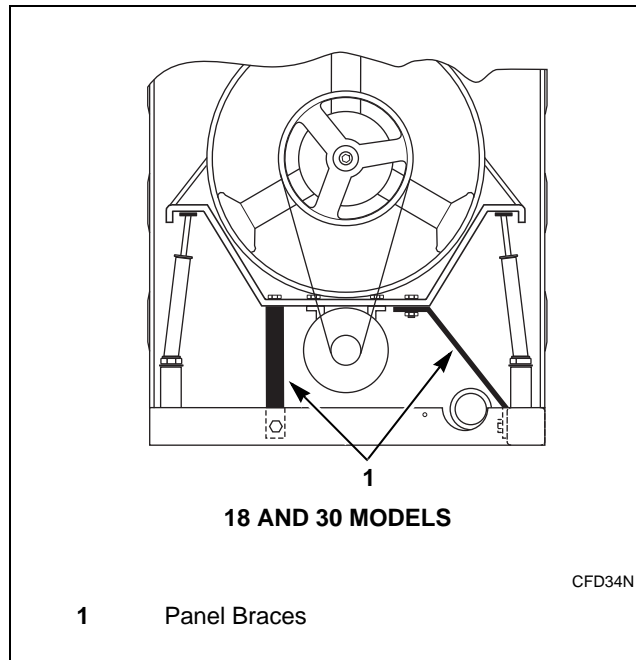

Figure 13
4. For 18 and 30 models, remove the panel braces. Refer to *Figure 13*.